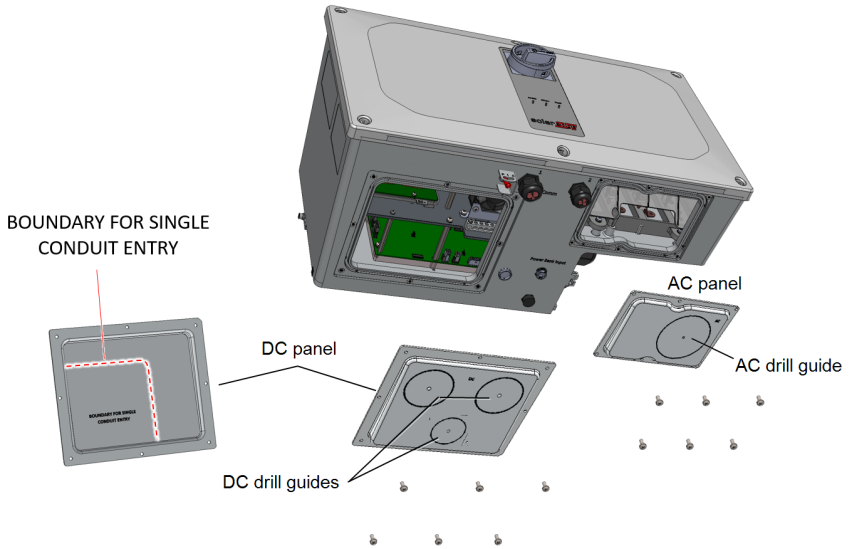

Figure 11: AC and DC panels with drill guides at the bottom of the Synergy Manager
3. Locate the drill guides for conduits on the DC and AC panels. Drill entry hole(s) for up to 5 cm conduit on the DC panel and 6.35 cm on the AC panel or drill entry hole for a single conduit, within the boundary marked on the inner side of the DC panel (see *Figure 11*).